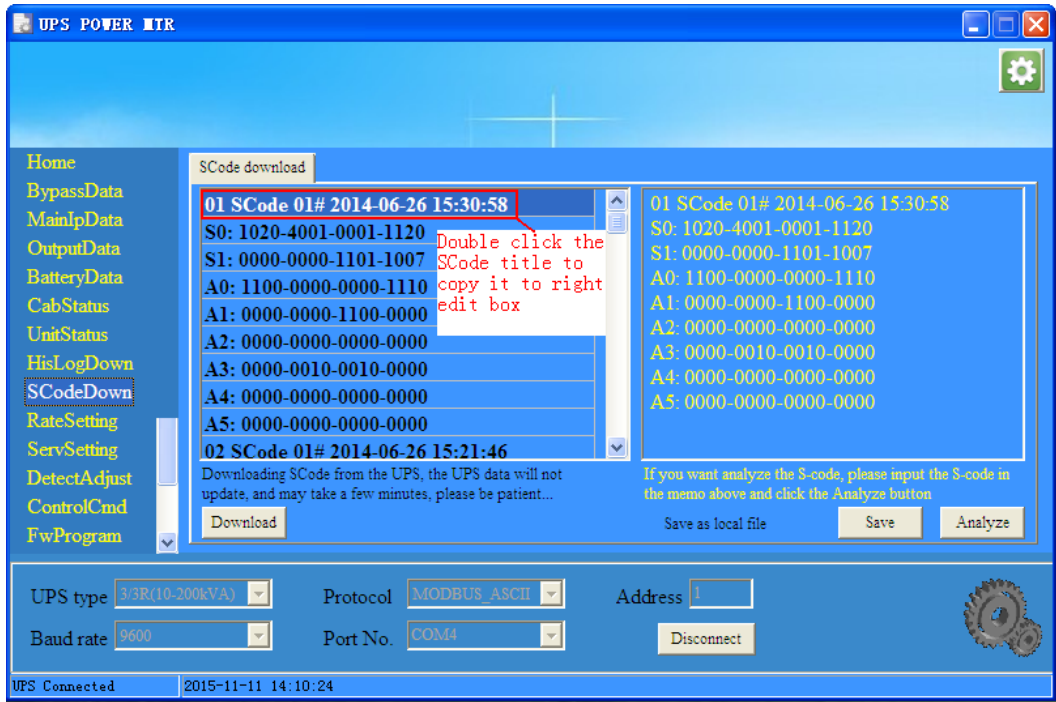

Fig 3-12 Scode Download
“SCode download” interface is shown in Fig 3-12. The SCode can be downloaded to the grid on the left by simply clicking the “Download” button, and click “Save” to save the SCode to the local computer.
- Double-click the SCode title on the left, the SCode will be copy to the SCode box, as shown in Fig 3-12.